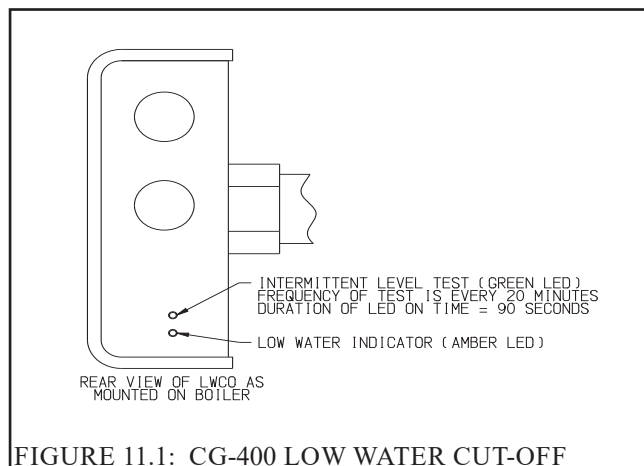

FIGURE 11.1: CG-400 LOW WATER CUT-OFF
- 3) LWCO Probe Check - Turn on power to the boiler. Both the green power light and the yellow low water light should come on (Figure 11.1)